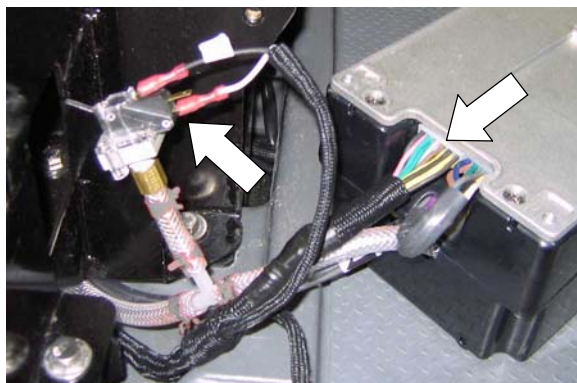

Fig. 35
6. Connect the *ec-H2O* wire harness to the module and to the pressure switch as shown (Figure 35).